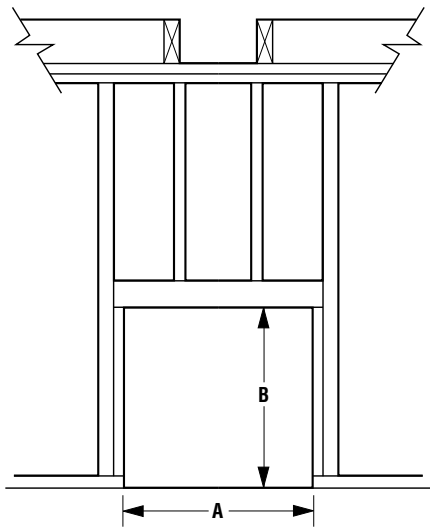

Figure 11
Step 3. Refer to fireplace drawings and specifications on pages 6 and 7 for framing dimensions and details. Frame appliance enclosure as illustrated in Figures 11 through 14 on page 7.